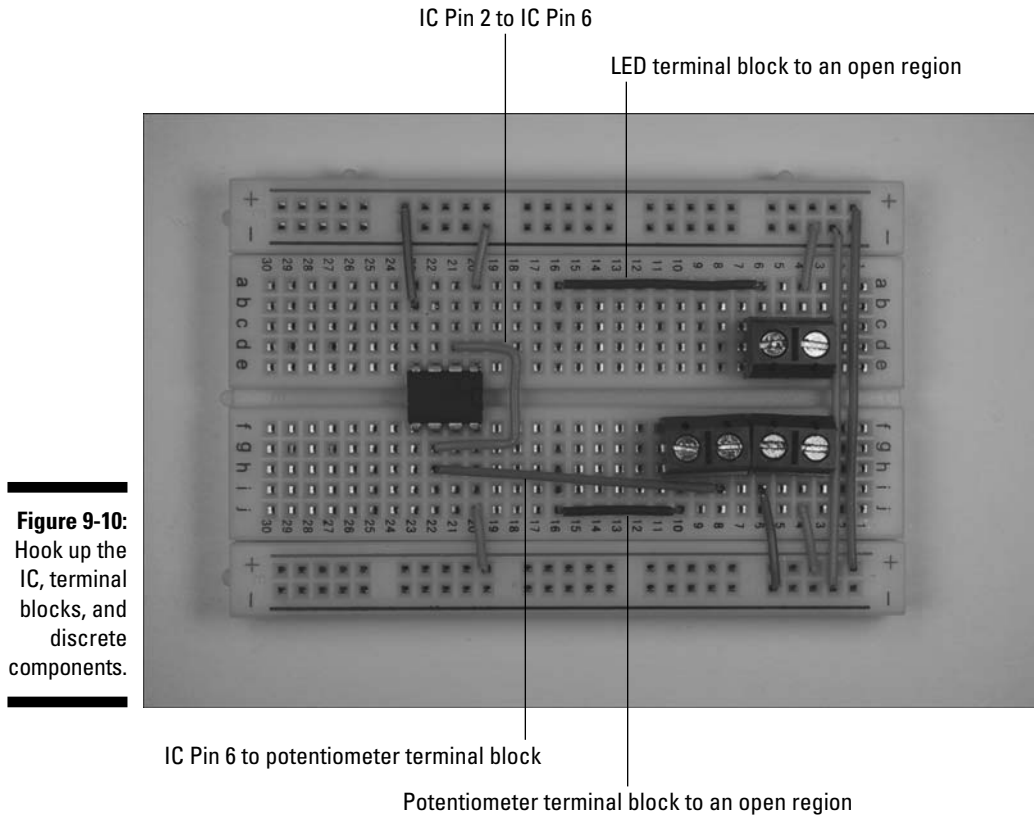

Figure 9-10: Hook up the IC, terminal blocks, and discrete components.
4. Insert wires to connect the IC, terminal blocks, and discrete components, as shown in Figure 9-10.